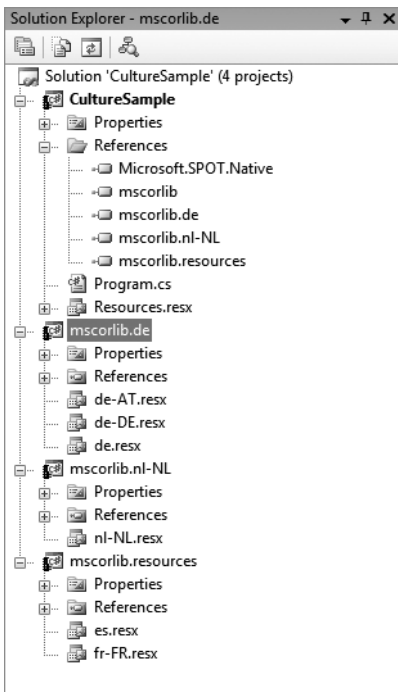

Figure 10-6. *A solution with several mixed cultures*
3. Now, add a new resource file with the name of the desired culture (for example, `de` or `de-DE`). You accomplish this by clicking the menu item `Project ► New Item ► Resource File`. In the Solution Explorer, you can see the new resource file indicated by the extension `.resx`. Figure 10-6 shows a solution with several mixed cultures.